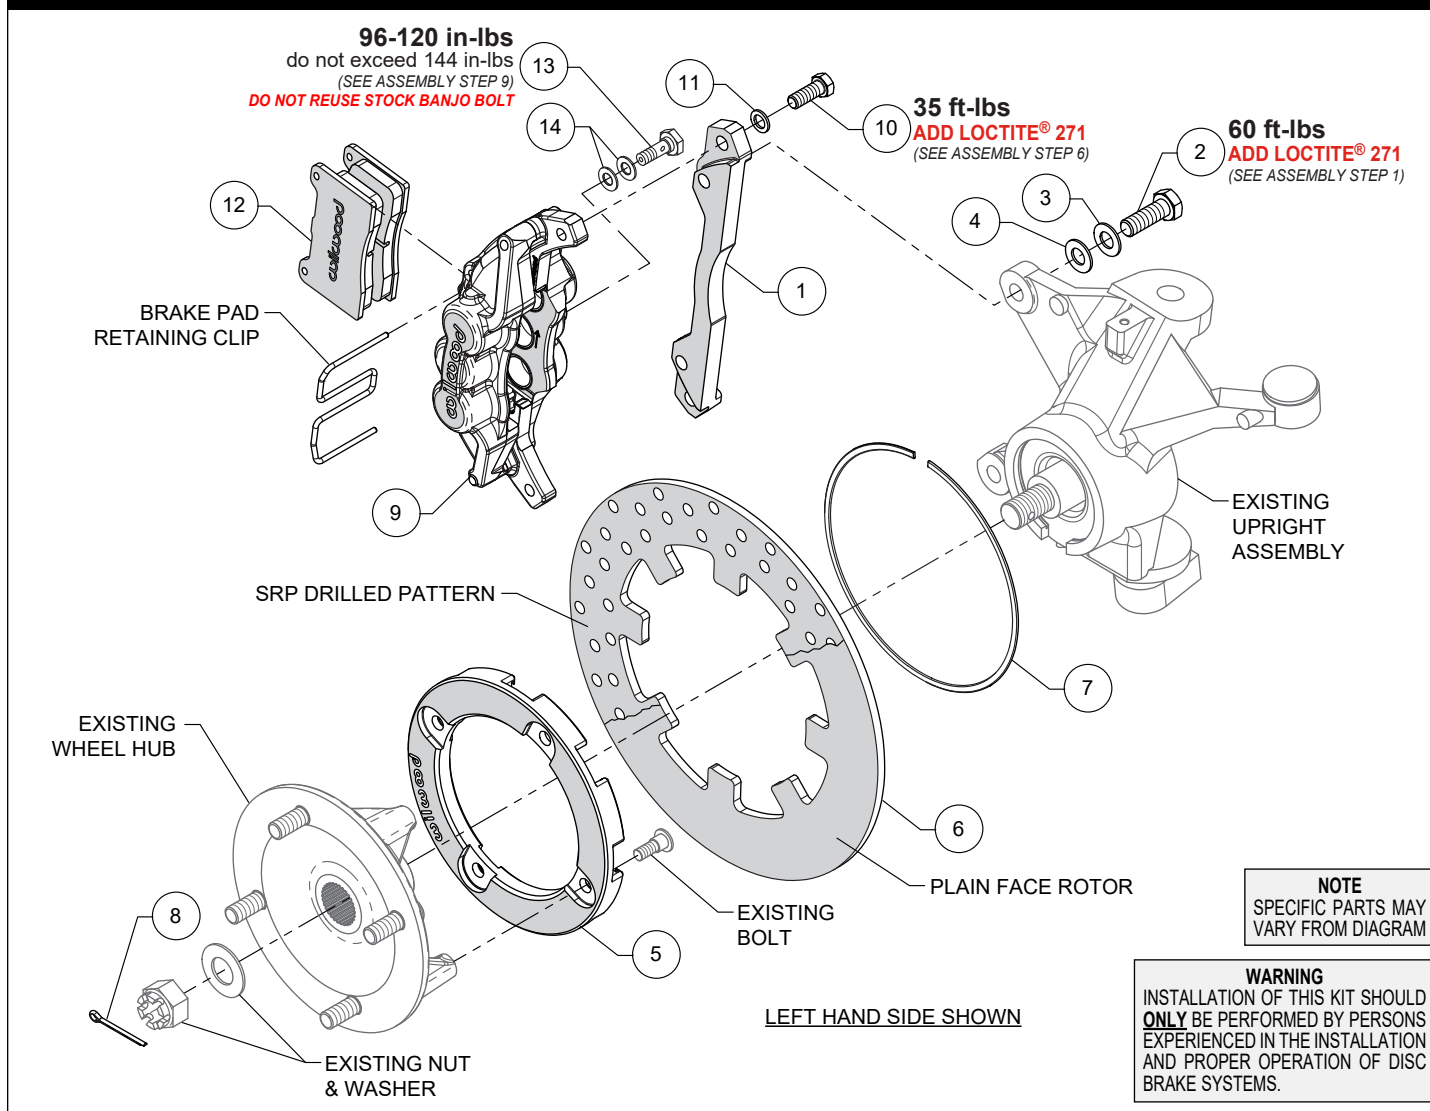

Figure 1. Typical Installation Configuration
NOTE: Numbers in parenthesis refer to the parts list and Figure 1 on the preceding pages.
STEP 1 Orient the caliper mounting bracket (1), as shown in Figure 1 and Photo 1. Install using bolts (2), washers (3), and shims (4) as shown in Figure 1 and Photo 1. Apply red *Loctite*® 271 to the bolt threads and torque to value shown in Figure 1.
STEP 2 Place the existing OEM wheel hub face down and position the rotor adapter (5) onto the wheel hub as shown in Photo 2. **NOTE:** The existing wheel hub must be free of dirt and debris or excessive rotor run out may result. Attach rotor adapter to wheel hub using existing OEM bolts, Photo 3. Torque to OEM specifications.
STEP 3 Position the rotor (6) onto the rotor adapter (5), making sure the rotor lugs fit into the recesses of the rotor adapter, as shown in Photo 4.
STEP 4 Secure rotor to the rotor adapter using the snap ring (7) by installing the snap ring into the groove of the rotor adapter, as shown in Photo 5. Carefully inspect snap ring to ensure complete engagement in the groove.
STEP 5 Grease the splines and outer snout of the existing wheel hub and slide the wheel hub/rotor assembly onto the axle and attach using the existing OEM washer and castle nut. Tighten to OEM specifications and secure using cotter pin (8), Photo 6.
STEP 6 Secure the caliper (9) to the mounting bracket (1) using bolts (10) and washers (11), as shown in Figure 1 and Photo 7. Apply red *Loctite*® 271 to the threads, and torque to value shown in Figure 1.
STEP 7 Remove the pad retainer clip from the caliper (9). Insert the brake pads into the caliper with the friction material facing the rotor, as shown in Photo 8. Reinstall the pad retainer clip, Photo 9.
STEP 9 Attach brake line to caliper. Connect existing OEM flexline to caliper using banjo bolt (13) and crush washers (14). Do not use lubricant or thread sealant on banjo bolt (13). Torque to minimum value shown in Figure 1. Check for leakage, increasing torque only to stop leakage without exceeding maximum specification. Replace crush washers and banjo bolt whenever reassembly is required. Wilwood offers a brake flex line hose kit to fit this application (sold separately), order **p/n 220-17626**. Hose kit includes hoses, fittings, etc., all in one package for this application. **Ensure hoses are routed to prevent contact with moving suspension, brake or wheel components.**